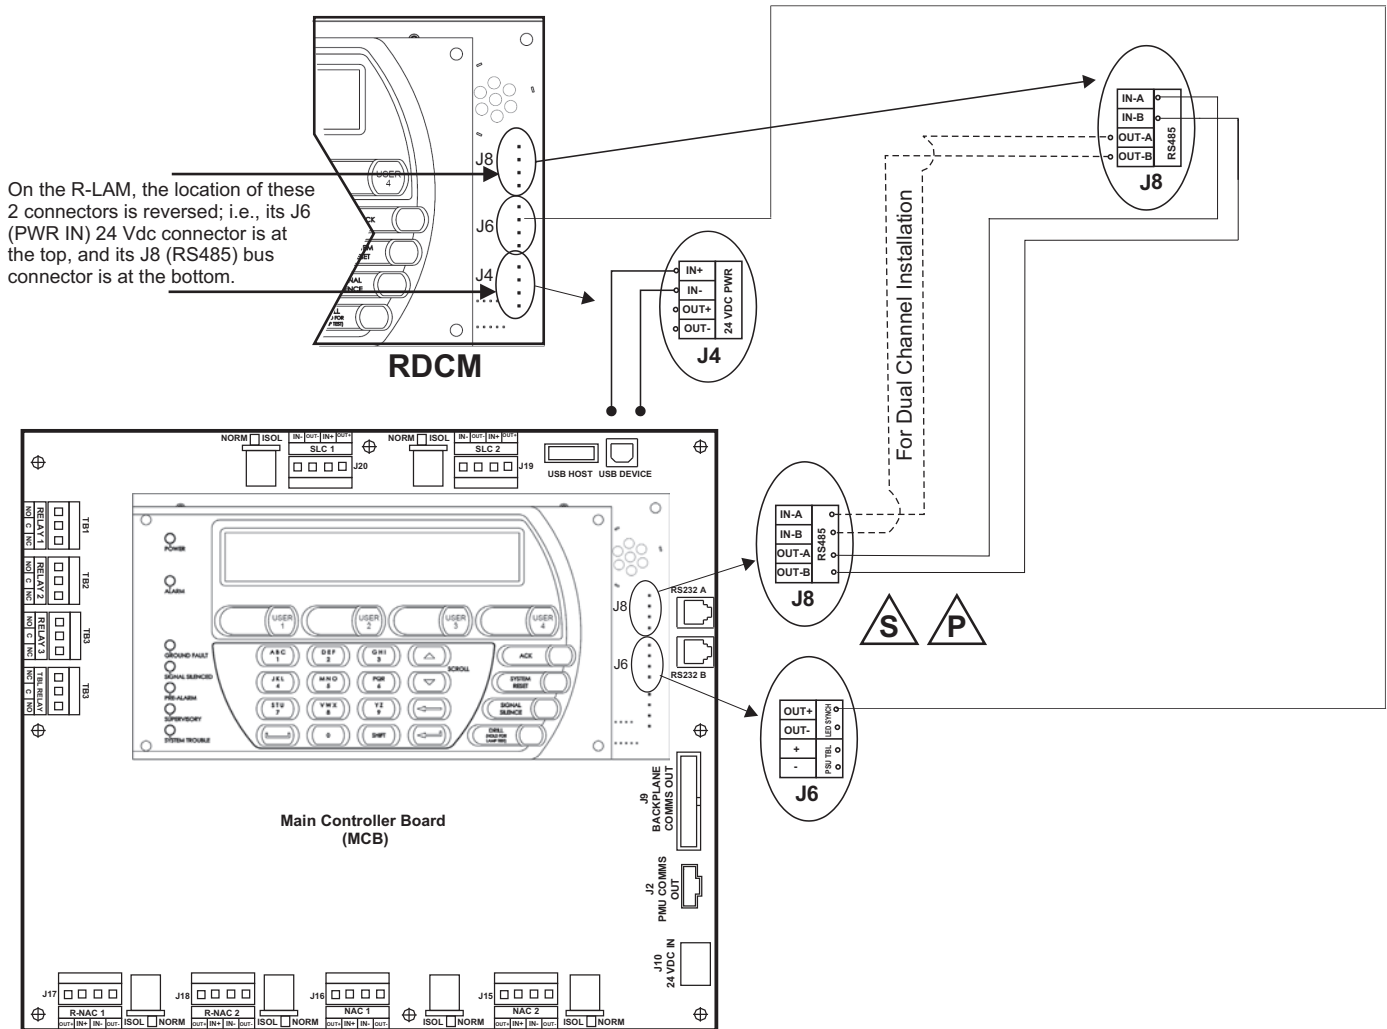

Figure 2-41. RS485 Wiring Diagram for Remote Devices to MCB
6. With the enclosure secured to the wall, power and RS485 cables can be connected. Refer to the wiring diagram shown in Figure 2-41.
12. Connect power and RS485 cables. Refer to the wiring diagram shown in Figure 2-41.
The RS485 communications circuit is power-limited. Figure 2-41 shows typical interconnections among the ARIES NETLink control unit and the peripheral devices using both a single and dual communications channel.